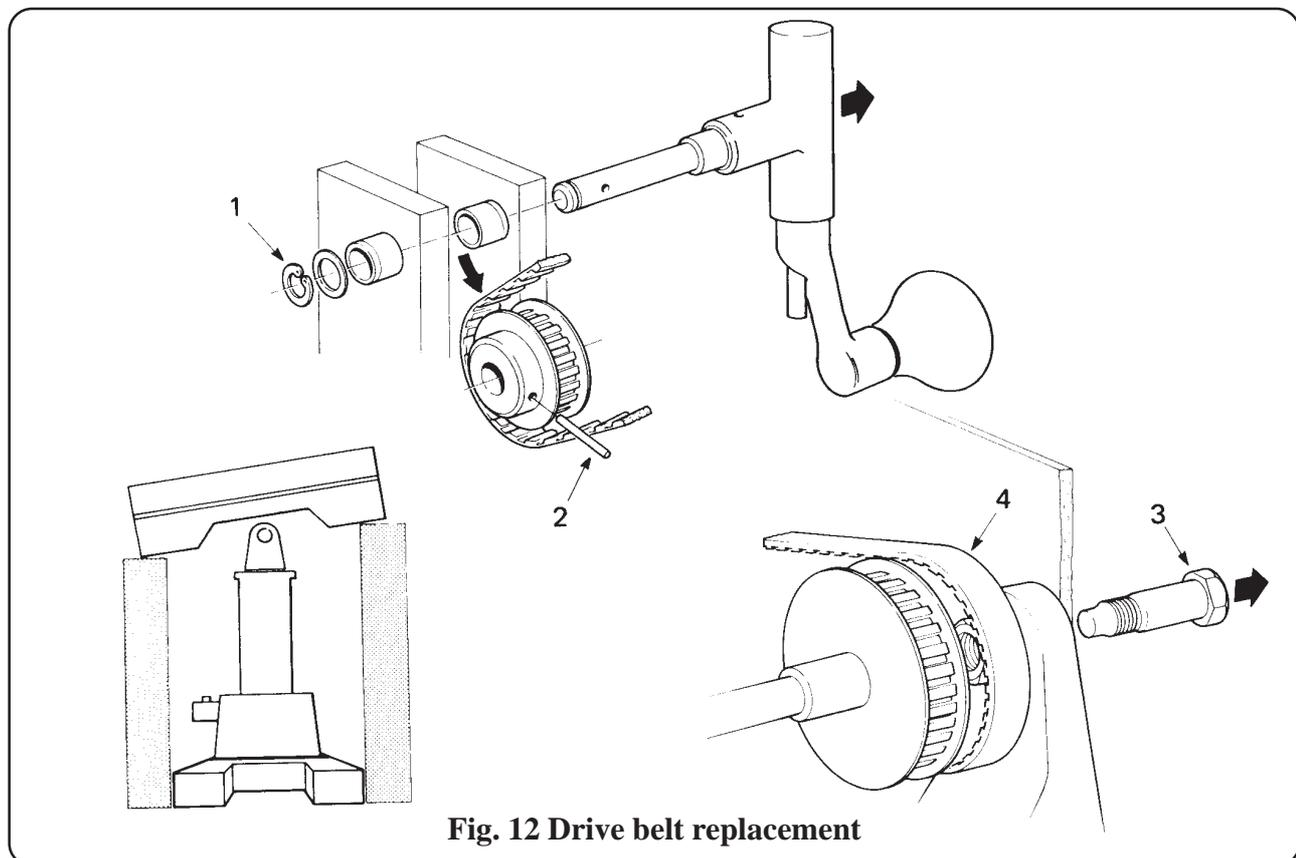

Fig. 12 Drive belt replacement
- ii Refer to Fig. 12. Remove circlip (1) from lateral tilt control handle shaft.
- iii Remove pin (2) from pulley at control handle end of drive belt and extract handle and shaft from pulley centre to free the pulley and drive belt.
- iv Bolster the sides of the table, then unscrew the second drive belt pulley bearing screw (3) from the outside of the table frame to create a gap wide enough to allow the drive belt (4) to be removed.
- v Exchange the drive belt for a new one, then reverse procedures (1), (2) and (3) to reassemble the lateral tilt drive mechanism.